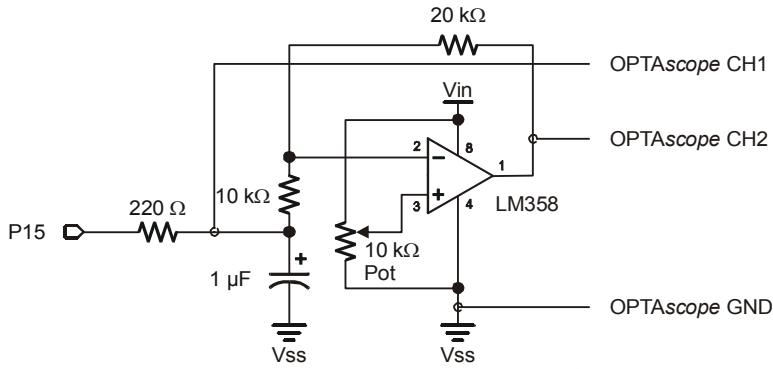
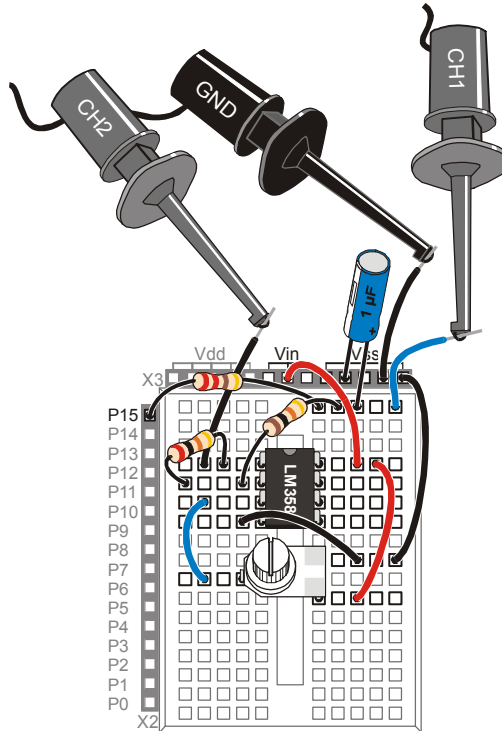

Figure 8-14:
Figure 8-15:
Recalling the formula Chapter 4, using a 10 kΩ resistor as R_i and a 20 kΩ resistor as R_f will cause a gain of 2. Recall also that in the case of an inverting amplifier, the voltage output will be *negative* 2 times the voltage input. Therefore, an input signal that swings from 1 to 3 V put through an inverting amplifier with a gain of 2 would output a signal that swings from -2 to -6 V. Further, recall that an op-amp cannot output a signal with a voltage that exceeds the voltages applied to the supply rails (V_{cc} and V_{ee}). Notice that in the schematic (Figure 8-14) that V_{ee} is connected to 0 V. Since the whole range of the output signal is below 0 V, the entire signal would be clipped, and would only be visible on the OPTAscope as a 20 mV flat line!
- √ Build the circuit shown in Figure 8-14 and Figure 8-15. If you are using the HomeWork Board, omit the 220 Ω resistor and make the necessary connection with a jumper wire.
- √ Once the circuit is built, connect the probes of the OPTAscope as shown Figure 8-15.